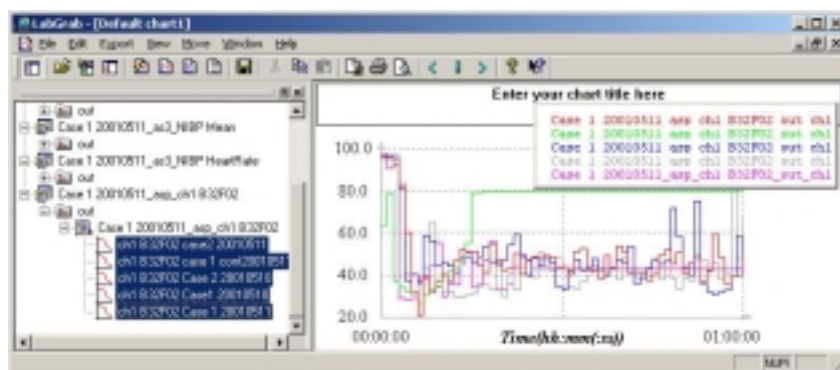

Figure 28 Sample wizard tutorial: viewing the generated data
- In the cases tree window, the generated files are automatically added (Figure 28 Sample wizard tutorial: viewing the generated data) You can use the appearance here to drag any processed variable from the generated files into the charts, as you would do with original RugloopII© files.